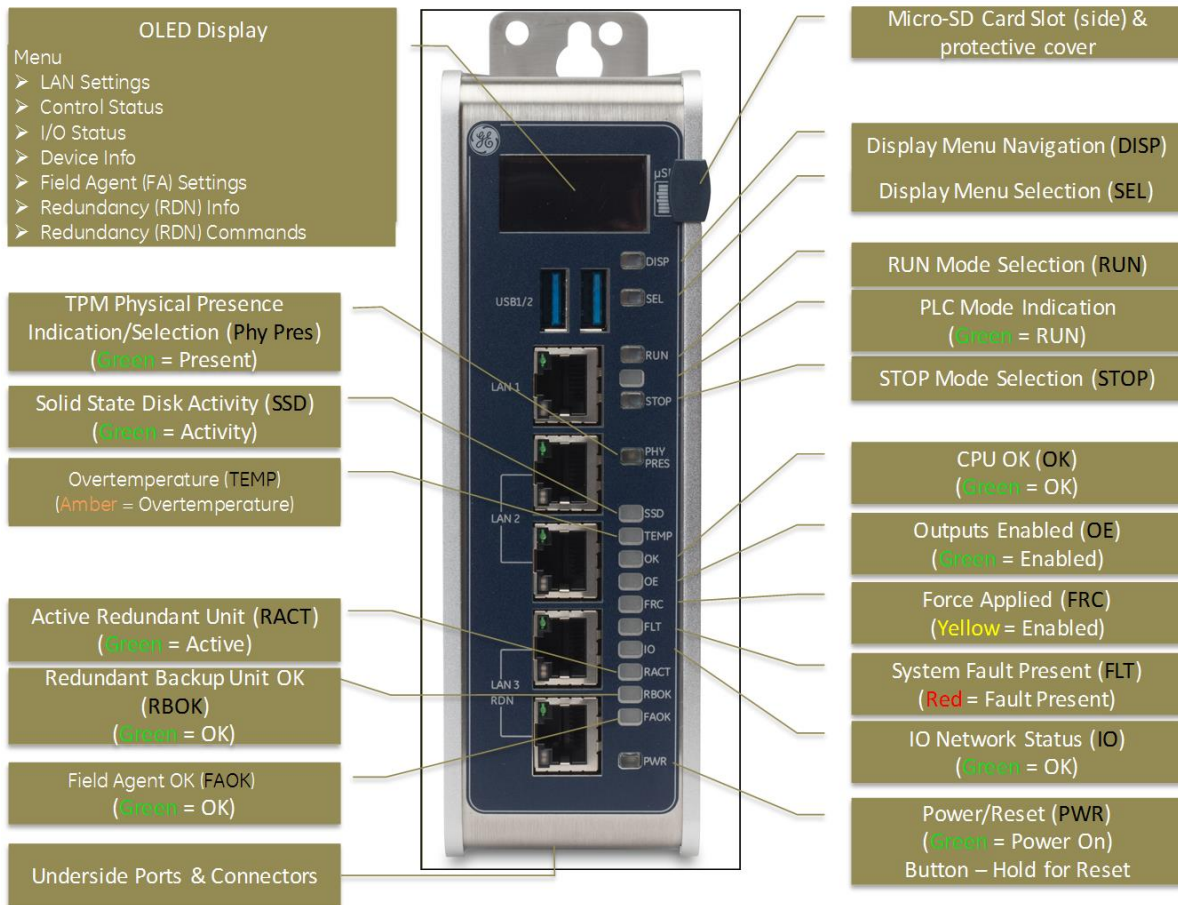

Figure 7: CPE400 Front View and Features
The physical features of the CPE400 are shown in Figure 7 and Figure 8.
- Supports four independent 10/100/1000 Ethernet LANs. Three are located on the front panel, as shown in Figure 1. LAN1 attaches via the upper, dedicated RJ 45 connector. LAN2 and LAN3 each attach via a pair of internally-switched RJ 45 connectors. The fourth LAN, labeled EFA (Embedded Field Agent), is located on the underside (Figure 7), and is specifically used for Field Agent connectivity (see Field Agent bullet just above).
The monochrome organic light-emitting diode (OLED) display (Figure 7) is used to display operating system menus. It measures 34.5 x 23 cm and displays 128 dots horizontally and 64 dots vertically. It interacts with the DISP pushbutton, which jogs the cursor from one menu item to the next, and with the SEL pushbutton, which activates the currently indicated menu item for further action.